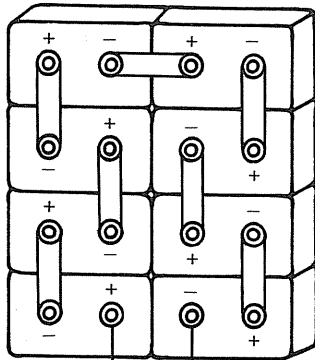

Fig. 11 + 3.2V -
Use 8 pcs of cells to connect in series to increase the voltage, but the current (I) remains constant = 100mA. The solar panel output is Voc 3.2V, Isc 100mA see Fig. 11
8. To make a solar panel for a radio consumption of 3V 100mA, the output of the solar panel required is 3.2V 100mA, therefore, use 8 pcs of cells to connect in series in order to increase the voltage. That means $8 \text{ pcs} \times 0.4\text{V} = 3.2\text{V}$ but the current remains constant 100mA. Now the solar panel output is 3.2V and 100mA. See fig. 11 and Chart A-3V.